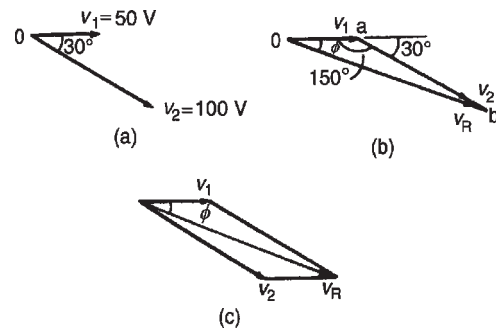

Figure 16.11
Phasors are usually drawn at the instant when time $t = 0$. Thus v_1 is drawn horizontally 50 units long and v_2 is drawn 100 units long lagging v_1 by $\pi/6$ rads, i.e. 30° . This is shown in Fig. 16.11(a) where 0 is the point of rotation of the phasors.
- (i) Draw v_1 horizontal 50 units long, i.e. $0a$ of Fig. 16.11(b)
- (ii) Join v_2 to the end of v_1 at the appropriate angle, i.e. ab of Fig. 16.11(b)
Alternatively, when two phasors are being added the resultant is always the diagonal of the parallelogram, as shown in Fig. 16.11(c).
A more accurate solution is obtained by calculation, using the cosine and sine rules. Using the cosine rule on triangle $0ab$ of Fig. 16.11(b) gives: